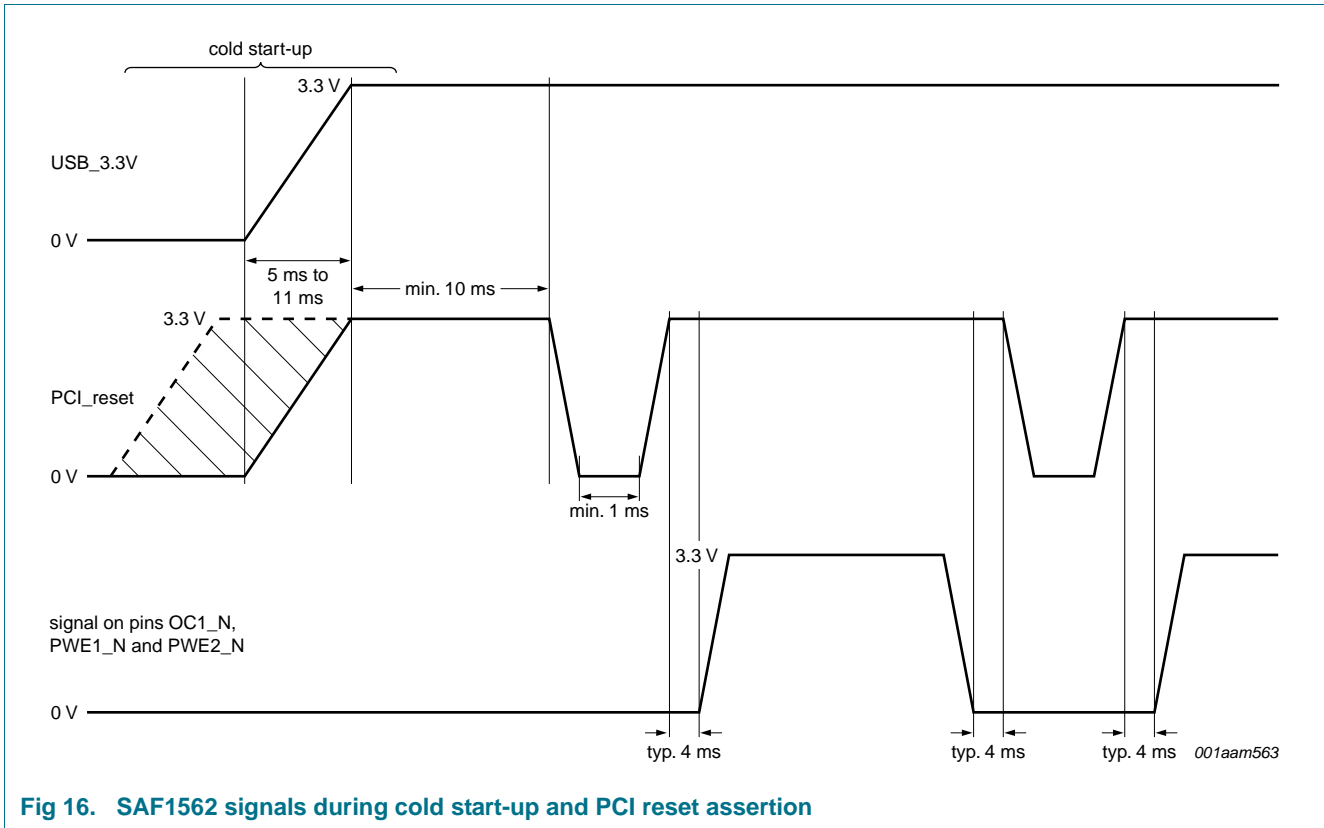
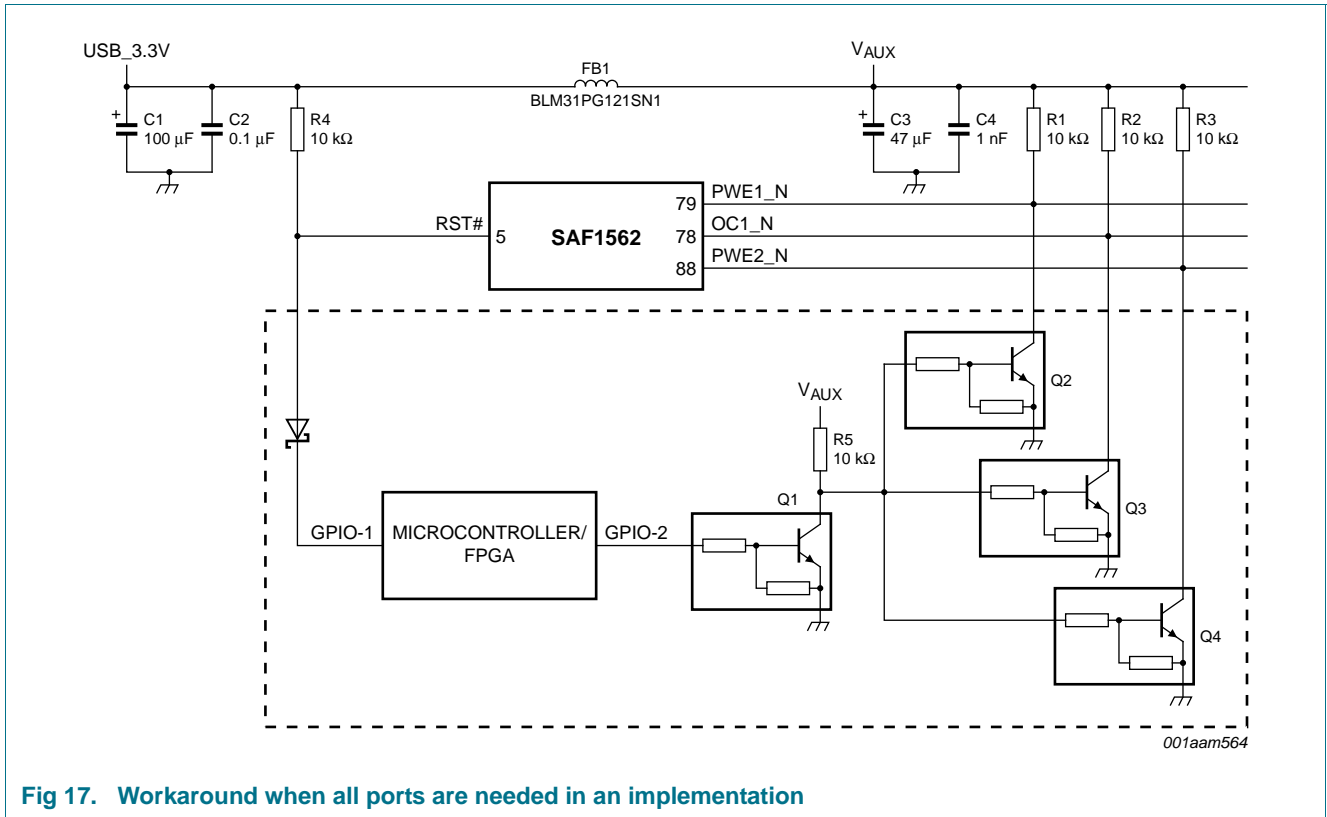

Fig 16. SAF1562 signals during cold start-up and PCI reset assertion
Fig 17. Workaround when all ports are needed in an implementation
Figure 16 shows the timing diagram which resolves the problems described in Section 19.19.1.
Ensure that the signal on pins OC1_N, PWE1_N and PWE2_N is not HIGH or toggling during the PCI reset assertion as shown in Figure 16.
- If port 1 and port 2 are needed then Figure 17 is one application example. To achieve the timing requirement as shown in Figure 16 use General Purpose Input Output (GPIO) ports from the microcontroller to control the key signals assertion. The OC1_N, PWE1_N and PWE2_N signals must be asserted before the PCI reset assertion and must be deasserted after the PCI reset deassertion. The recommended safety margin for the timing assertion and deassertion between the key signals and PCI reset is approximately 4 ms.
Ensure that the PCI reset is HIGH during cold start-up (refer to Figure 16 for the timing diagram).
Ensure that the power supply during cold start-up ramps up linearly from 0 V to 3.3 V within 5 ms to 11 ms (refer to Figure 16 for the timing diagram).